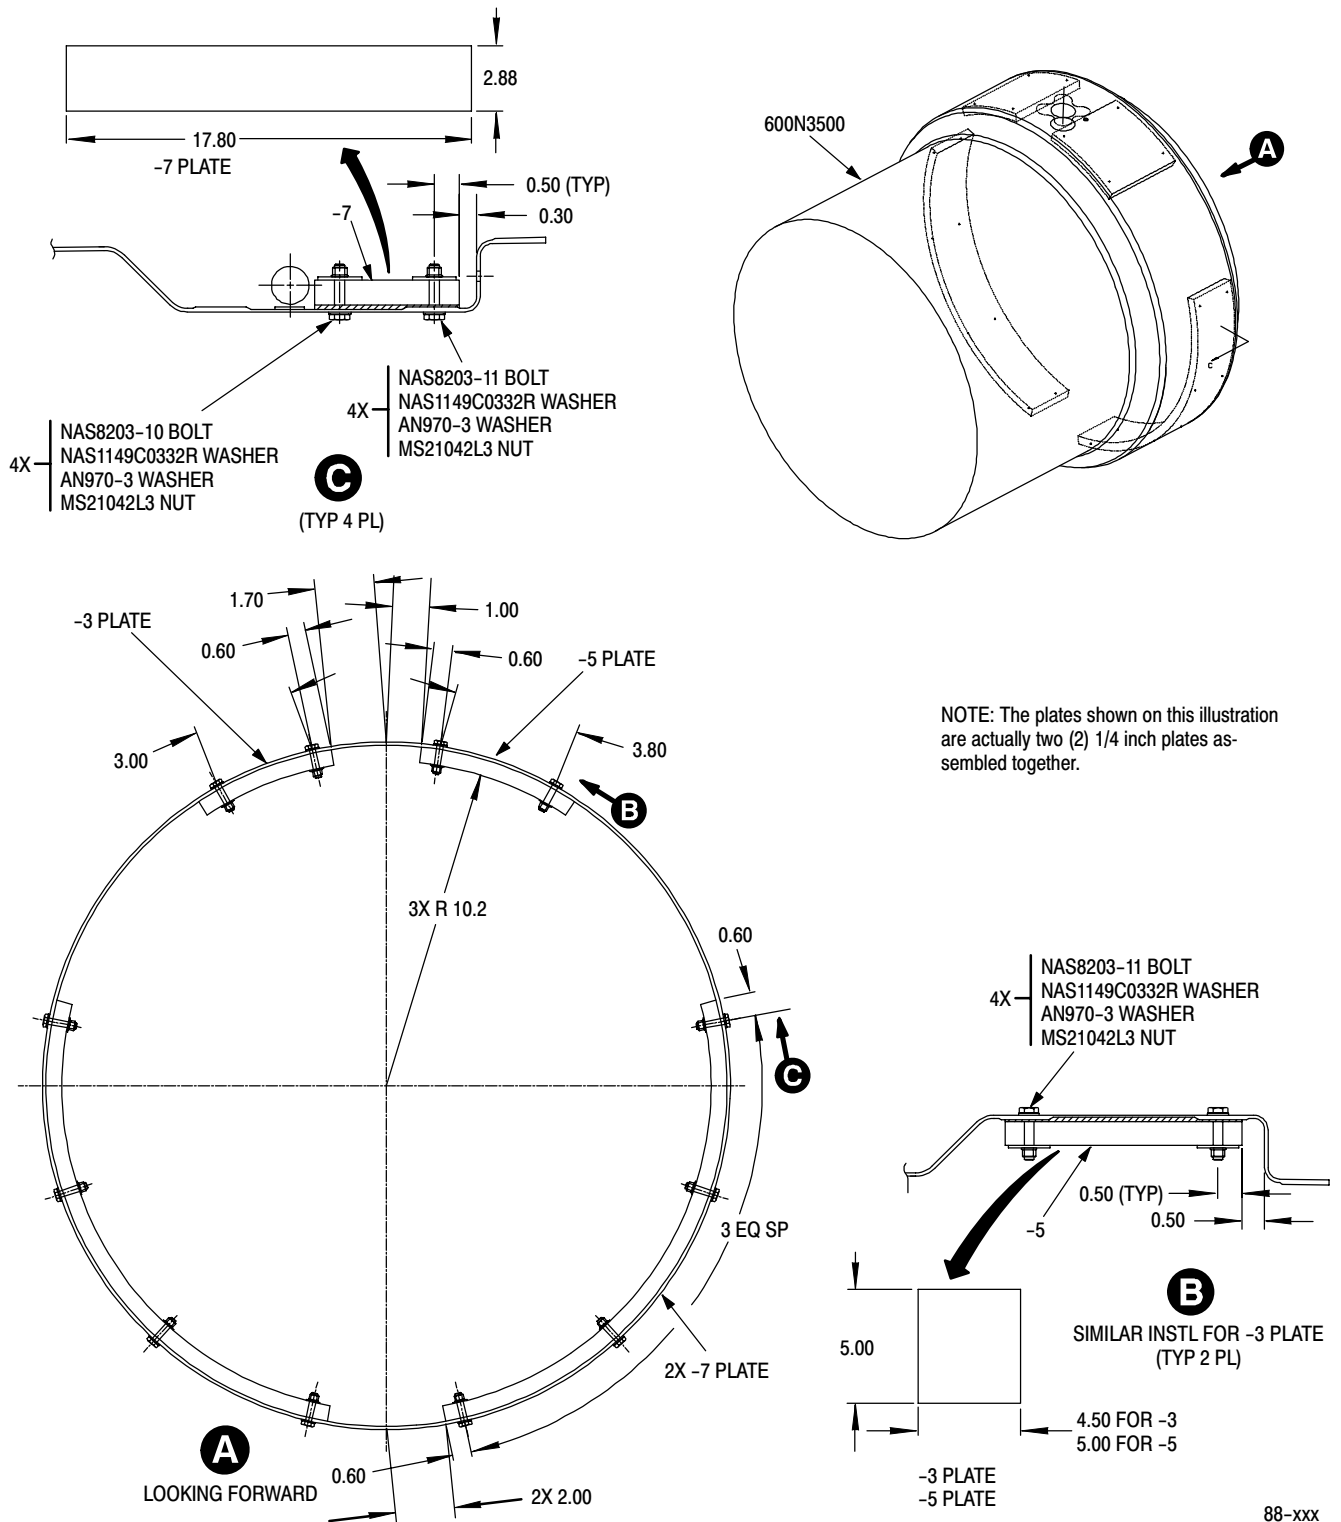

FIGURE 1. Tailboom Ballast Weight Fabrication and Installation.
Refer to Figure 1 and the Handbook of Maintenance Instructions.
- (1). Remove rotating cone thruster per CSP-HMI-2, Section 53-40-30.
- (2). Remove stationary thruster cone per CSP-HMI-2, Section 53-40-30.
- (3). Remove Kevlar liner (P/N 500N3500-5).
- (4). Use heat to soften adhesive. Do not exceed 150 degrees F. Use a thin scraper blade to pry liner free from tailboom. Avoid scratching tailboom. Do not leave scraper between liner and tailboom and allow liner to cool as the Kevlar will set.
- (5). As required, cut 2 each -3, 2 each -5 and 4 each -7 plates from lead procured with a density of 0.4 pounds per cubic inch. A 12 inch x 36 inch, 1/4 inch thick is sufficient to make one set of 30 lb. ballast weights.
- (6). Take lead weights and insert them into channel. It will be necessary to shape them to fit the I.D. of the tailboom. Use a sheet metal roller to shape the lead to the correct radius to fit in the boom. If a roller is not available, a 1 pound dead weight mallet will work to shape the lead into the channel. Use care when shaping the lead to not damage the tailboom.
- (7). After the lead has been shaped to fit inside the tailboom, drill pilot holes in the lead with a #30 drill bit. Stack the mating plates together (both -3's, -5's and/or -7's) before drilling in order to get holes to align. Refer to Figure 1 for edge distances.
- (8). Hold lead plate in place and using pilot holes in plates as a guide, drill holes in tailboom with a 0.1285 inch composite drill bit. Use sheet metal clamps to hold lead in place. Continue process until all pilot holes have been drilled.
- (9). After all pilot holes have been drilled in tailboom, remove weights and drill to final dimension of 0.191 inch with composite drill bit. Drill final dimension of 0.191 inch in lead with a #11 drill bit.
- (10). Clean any debris from tailboom.
- (11). Weigh and record weight of plates and hardware to be installed.
- (12). Coat faying surfaces with a layer of sealant (MIL-S-8802, Type II) to create a barrier between the tailboom and the plates. Install lead weights with hardware and seal around the edges after installation to prevent moisture from entering between the plates and between the plates and the tailboom.